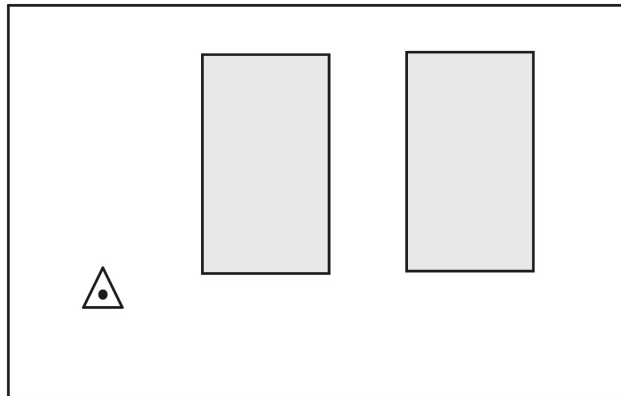

Figure 4: Triangle robot exploring a fixed environment
3. Draw the c-space with the robot centroid as the reference in Fig. 4. Treat the environment boundary as an obstacle. [4 points]